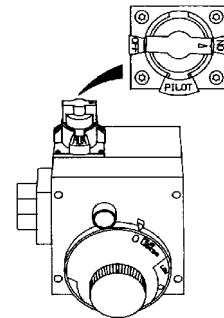

Figure 12
8. At arms length away, turn gas control knob counter-clockwise  to the full "ON" position. **WARNING:** Do not use gas control knob to regulate gas flow. (Figure 12)